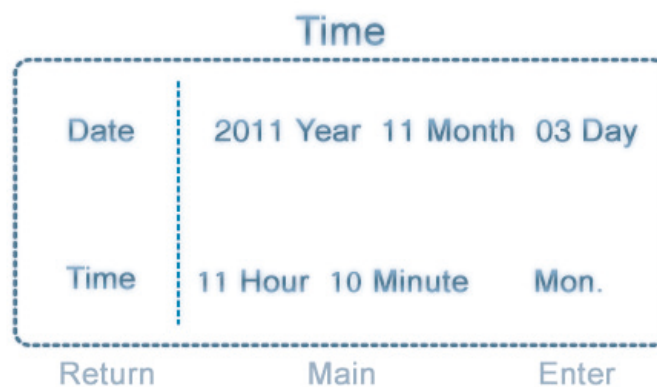

Figure 6
1. Proceed through main interface→Menu→Time→"Enter" key to enter, which is shown in Figure 6,